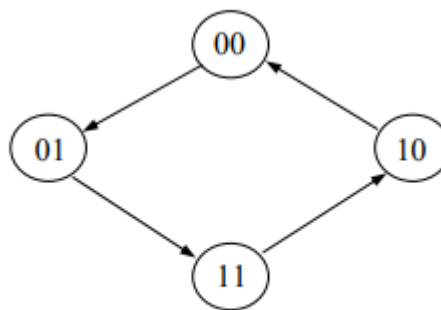

Fig. 2
- a) *In the pre-lab using LogicWorks and then in the lab using hardware chips, design a 2-bit gray code counter using JK flip-flops. The required sequence is the binary equivalent of (0-1-3-2-0). A state diagram for this counter is given in Fig. 2.*